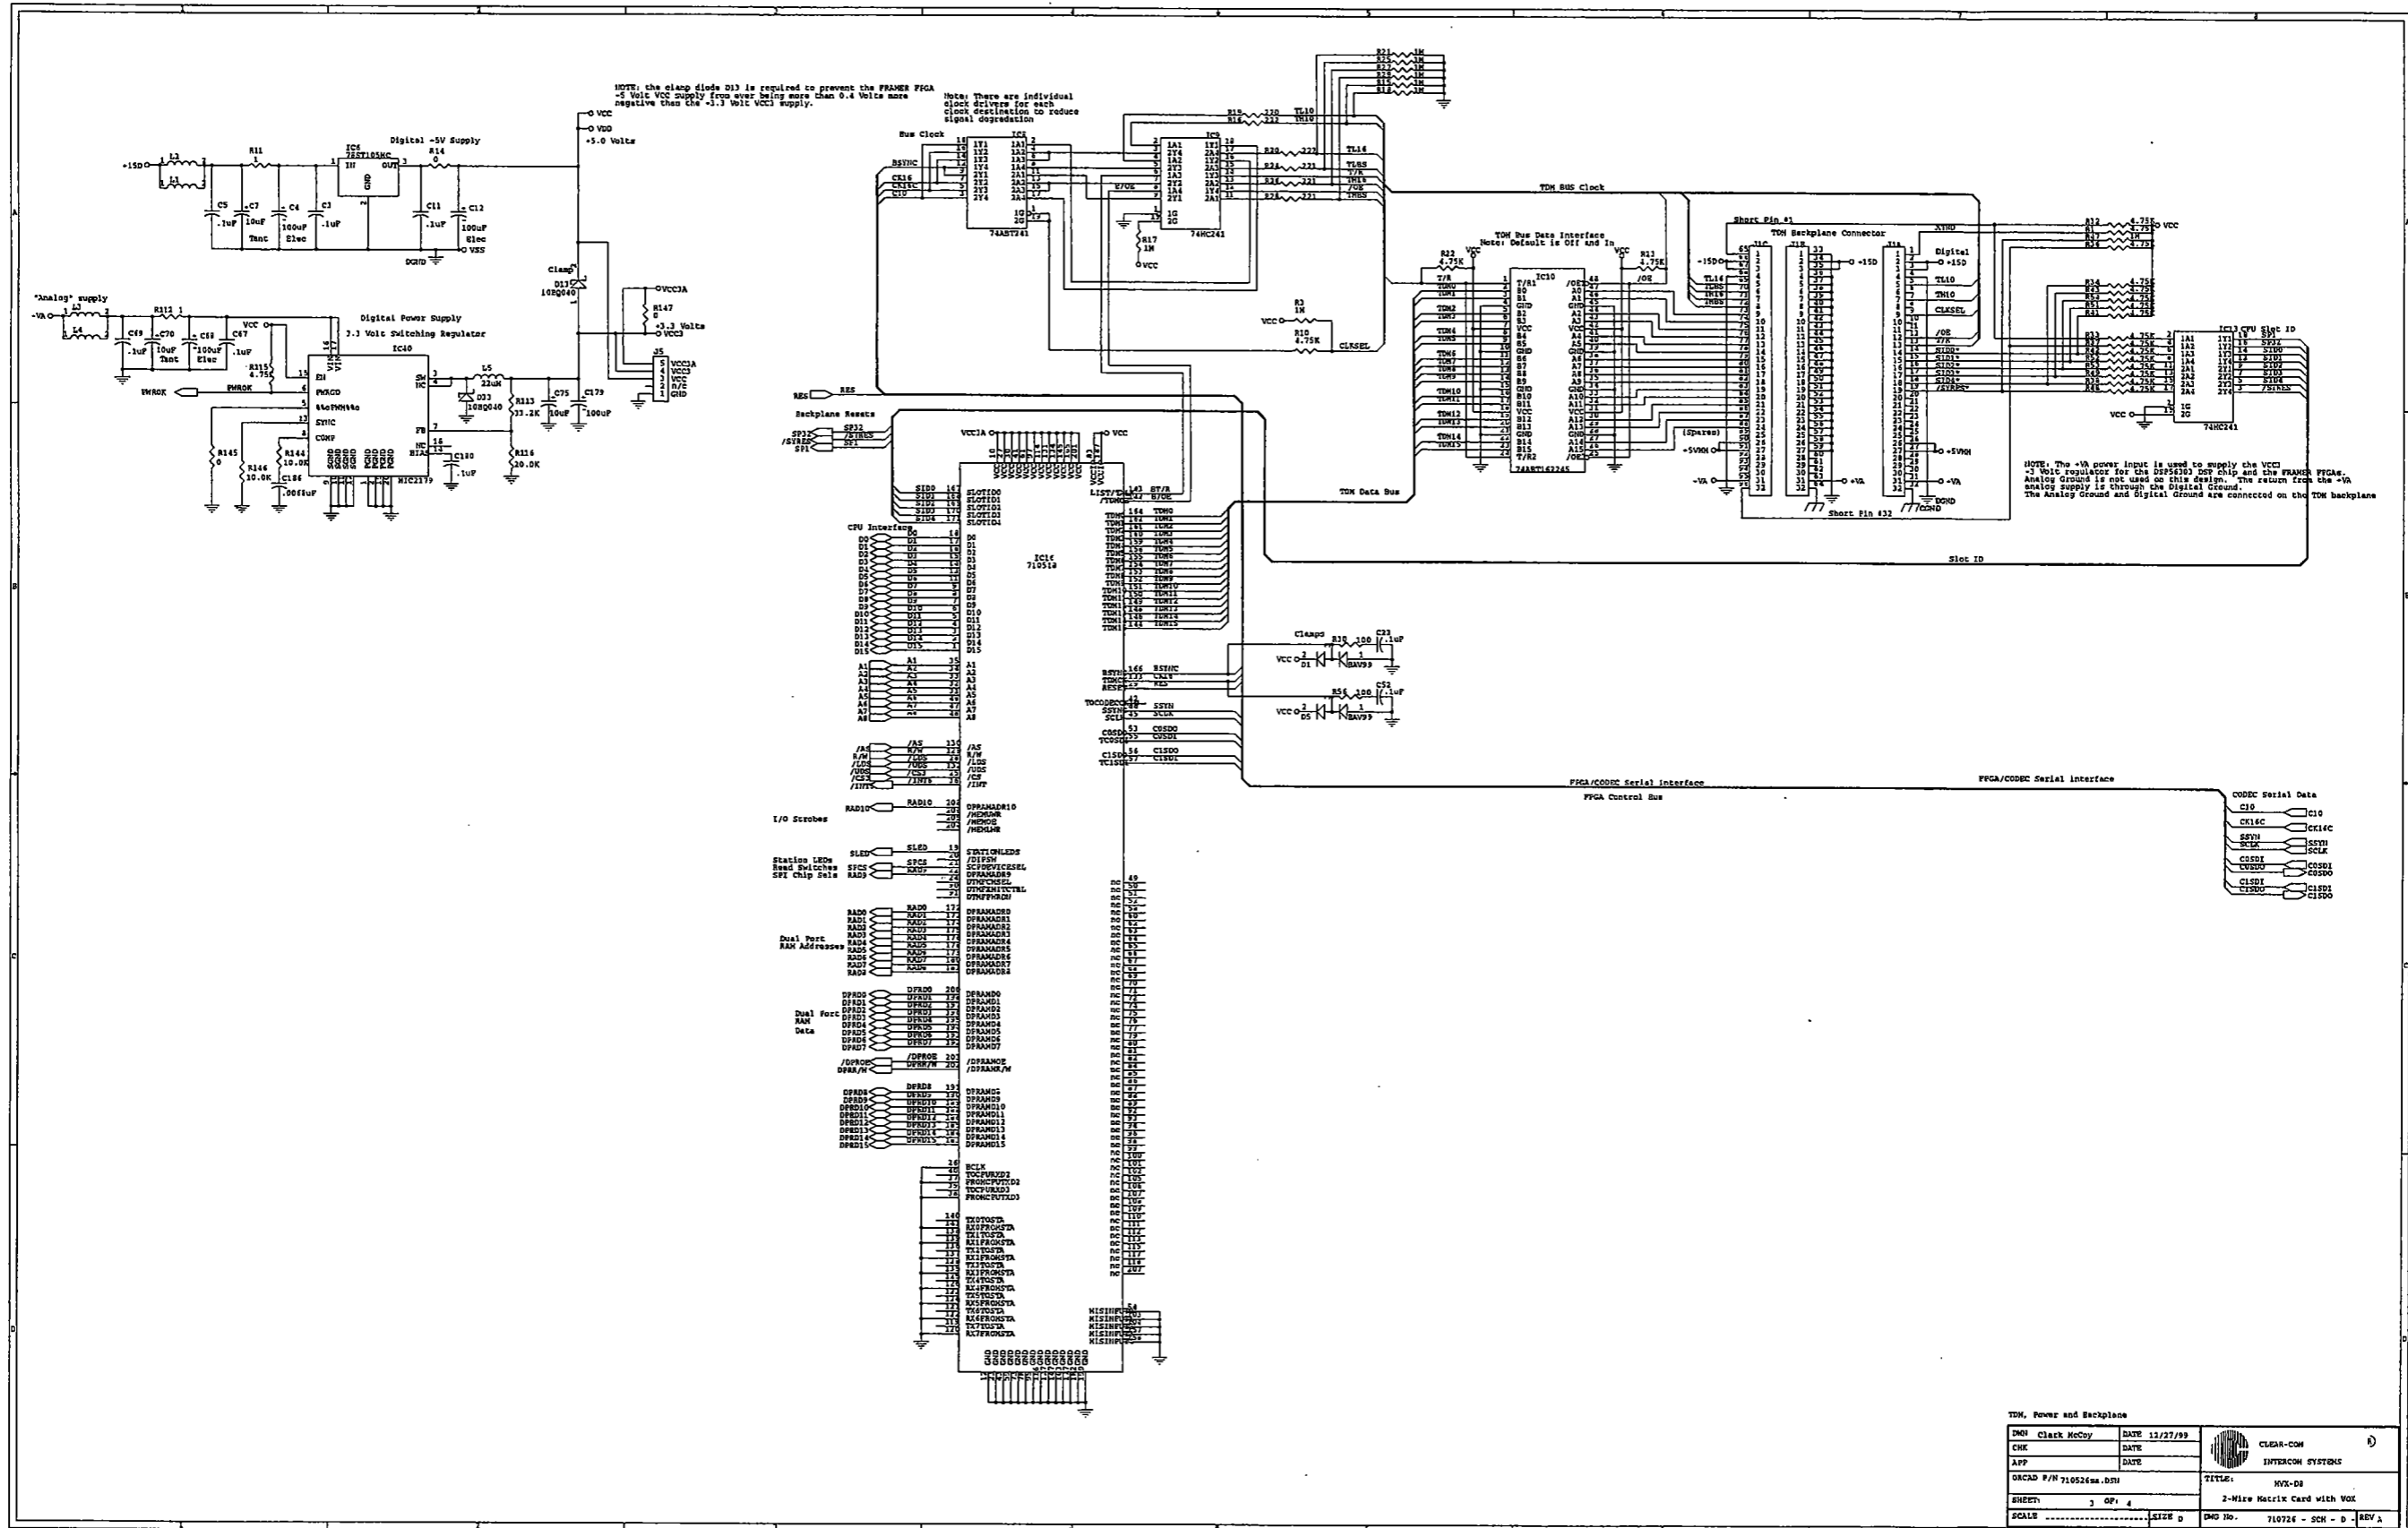

FIGURE M3-5: Schematic— MVX-D8 PCB Sheet 3, Rev. A
- Sheet 3 (Figure M3-5 on page M3-11) contains the FPGAs that interface between the microprocessor, the DDSB bus, and the digital, 2-wire line drivers.